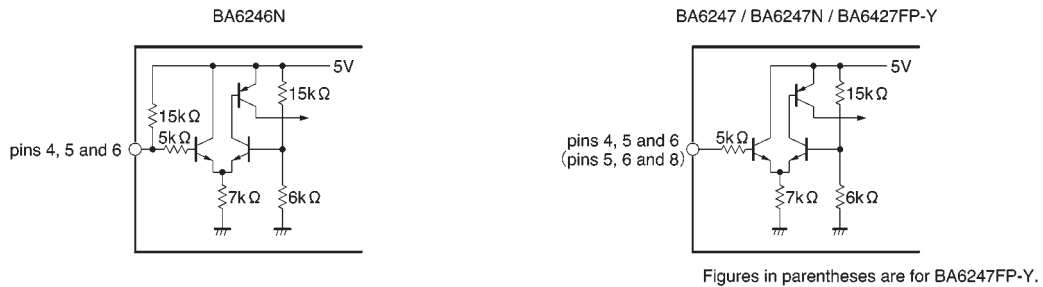

Fig.1
2) The input pins of the BA6246N are pulled up through a resistance of about 15k Ω (see Fig. 1). To secure the LOW level input, the interface to these pins should have a current-sink capability of at least 700 μA (5V / 15k Ω \times 2).